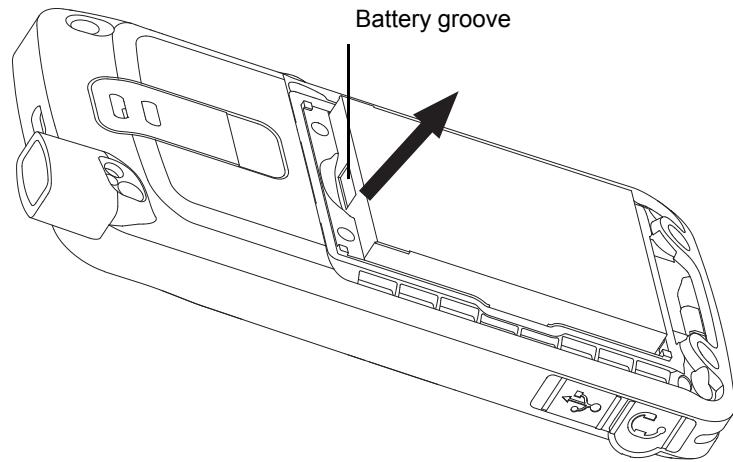

Figure 5-6. Battery removal
3. After removing the battery door, remove battery from battery compartment as shown in Figure 5-6. To remove battery, grasp the battery groove at the top of the battery and lift up the battery.